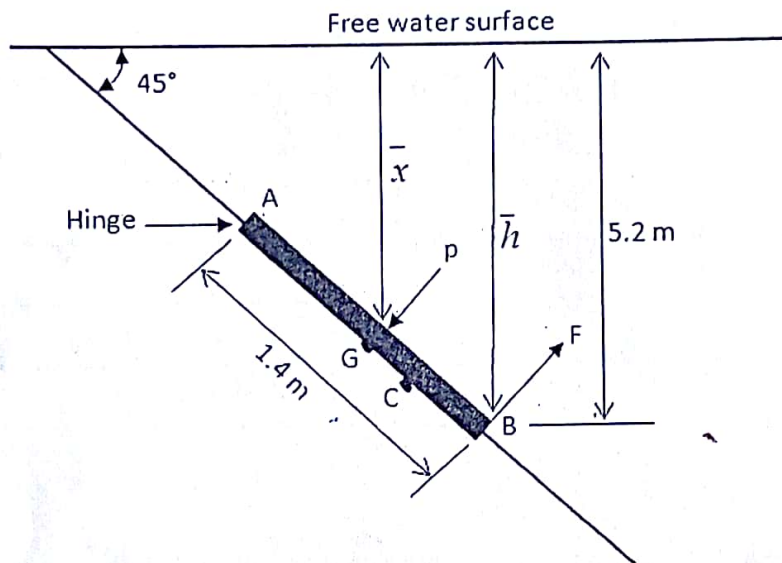

Fig. Q 3 (c)
- (c) An inclined rectangular sluice gate AB 1.4 metre by 5.2 metre size as shown in Fig. Q 3 (c) is installed to control discharge of water in a dam. The end A is hinged. Determine the force normal to the gate applied at point B to open the gate. 5 marks